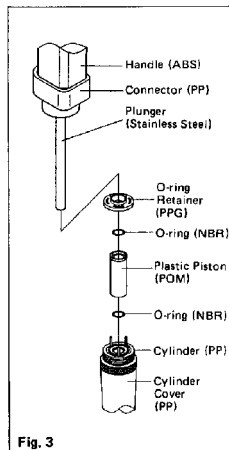

Fig. 3
10. After the above maintenance procedure, should the feeling of a smooth piston stroke seem different than prior to servicing; immediately disassemble the unit as in the above procedure and reassemble as per the schematics in Figures 3.